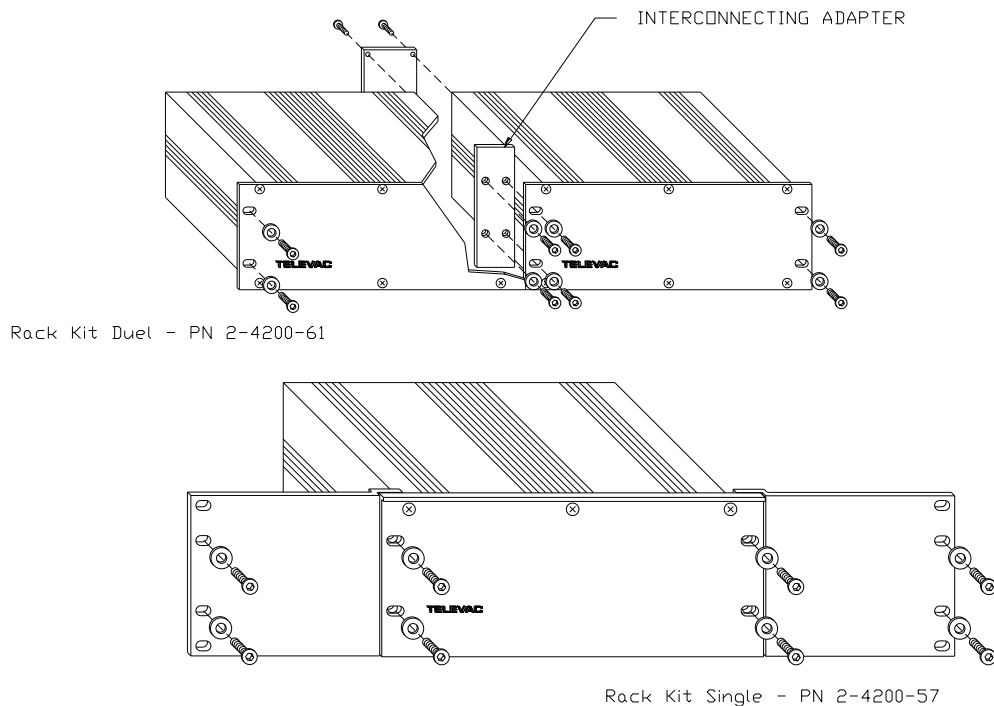

Fig. 3.2 – Rack Adapter Details
**RACK MOUNTED** - A rack adapter kit is required to rack mount one or two controllers in a standard 19" rack. Refer to Fig. 3.2 for component configuration.